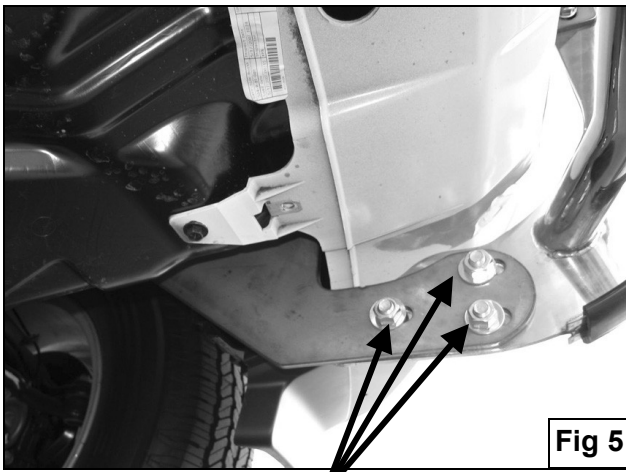

Fig 5
7. With help position Grille Guard on the outer side of Mounting Brackets. Attach Grille Guard to Mounting Brackets using the included (6) 12mm x 30mm Hex Head Bolts, (6) 12mm Lock Washers, (6) 12mm Hex Nuts, and (12) 12mm Flat Washers (**Figure 5**). Do not tighten at this time.